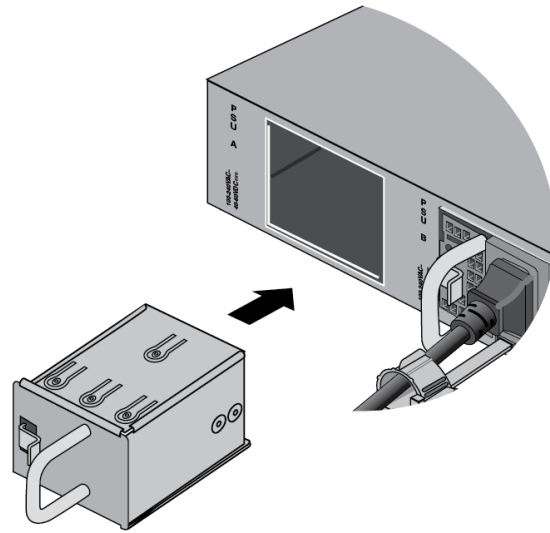

Figure 146. Installing the Blank Power Supply Cover
7. Orient the blank power supply cover as shown in Figure 146 on page 247 and slide it into the slot until it clicks into place.
10. Orient the blank power supply cover as shown in Figure 146 on page 247 and slide it into the slot until it clicks into place.